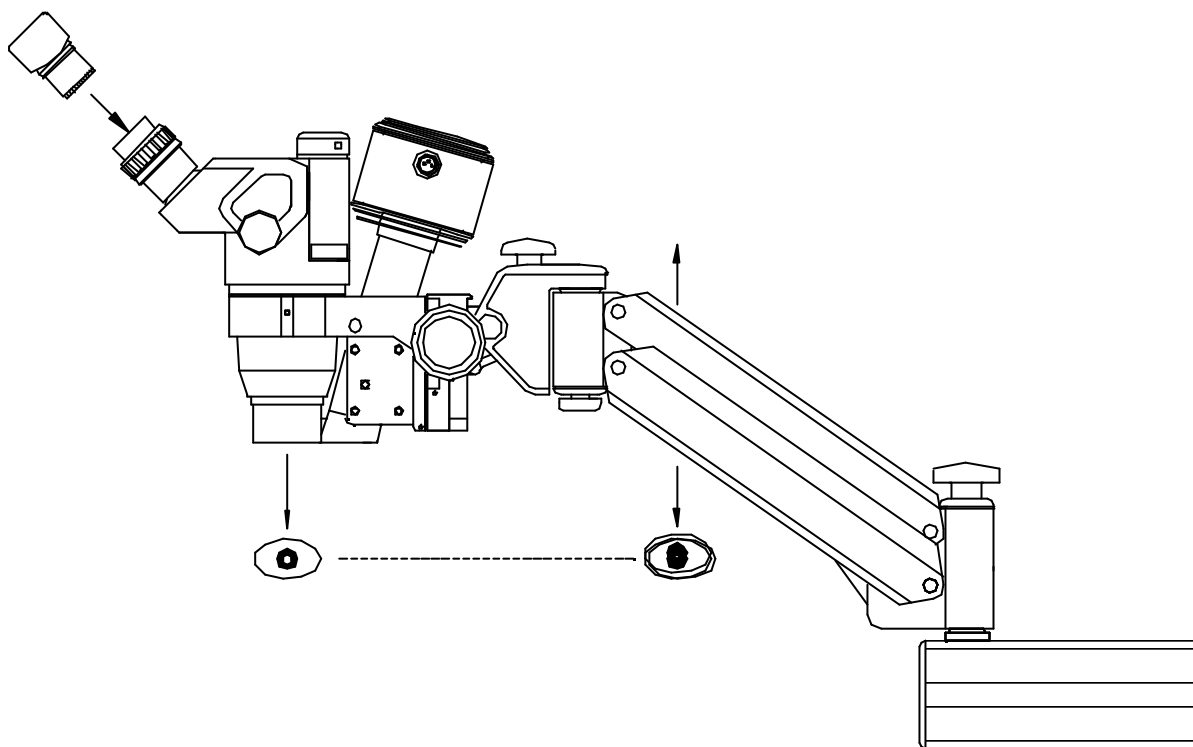

Figure 8 Inserting the eyepieces and rough focusing
10. Remove the microscope eyepiece blanks and insert the eyepieces (see figure 8).
11. Focus the microscope roughly by tilting the arm up or down to the best vertical position (see figure 8).